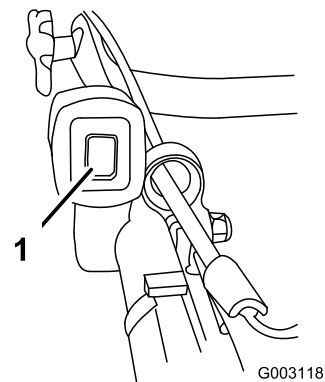

Figure 14
1. Push the ignition toggle switch to the On position (Figure 14).